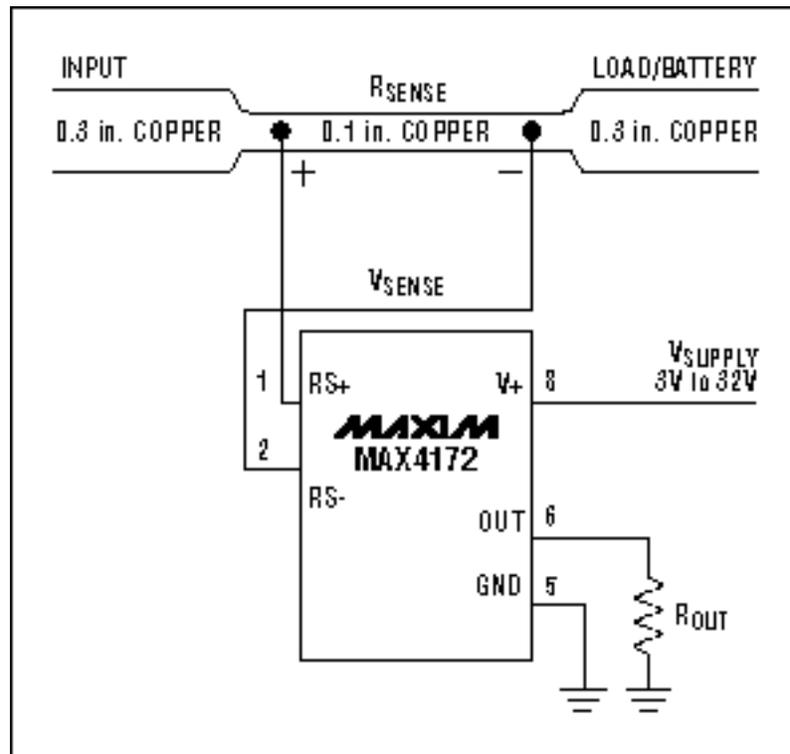

Figure 10. This high-side current monitor (MAX4172) employs a PC-board trace for  $R_{SENSE}$ .
- **Cost:** Using a PC-board trace as a sense resistor (Figure 10) is an alternative method for applications where the cost of  $R_{SENSE}$  is an issue. You will need to adjust the full-scale current value with a potentiometer because of inaccuracy in the copper resistance. The resistance temperature coefficient of copper is fairly high (approximately 0.4%/° C) in systems that undergo wide temperature variations.